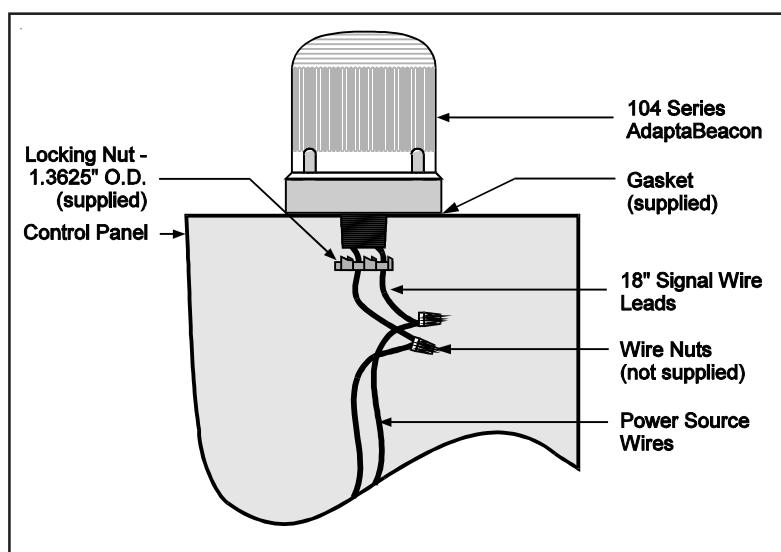

Figure 2. Panel Mounting
Panel Mounting (Figure 2)
- For AC models, use wire nuts (not supplied) and connect the signal's black and white wire leads to the power source wires as shown in Figure 2. Polarity is not relevant.
- For DC models, connect the signal's red wire to the positive power source wire and connect the signal's black wire to the negative power source wire using wire nuts (not supplied). Polarity must be observed. Refer to Figure 2.
Panel Mounted Modules: Disconnect wiring and remove locking nut securing the base to the panel (Figure 2).